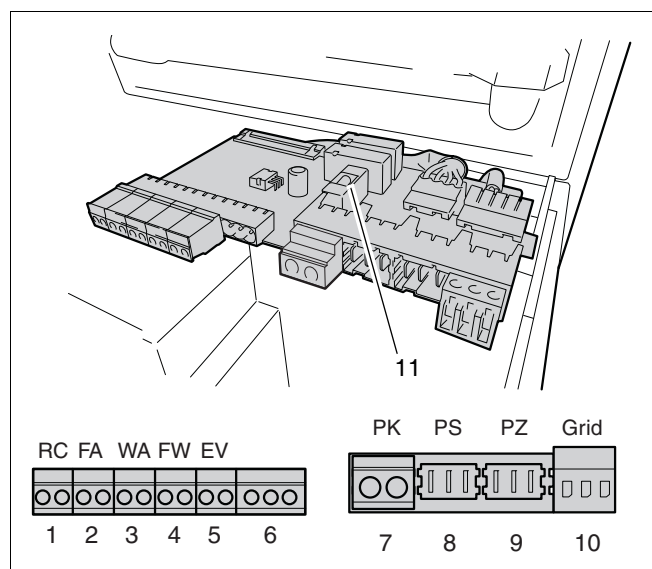

fig. 53 External connection board
- Use a jumper wire to create a bridging circuit between the two "WA" contacts (see fig. 53, pos. 3).
- Remove the bridge between the two "WA" contacts (see fig. 53, pos. 3).
- Connect the On/Off thermostat directly to the two "WA" contacts of the boiler using a short cable (see fig. 53, pos. 3).
- Connect the modulating control directly to the two "RCxx" contacts of the boiler using a short cable (see fig. 53, pos. 1).